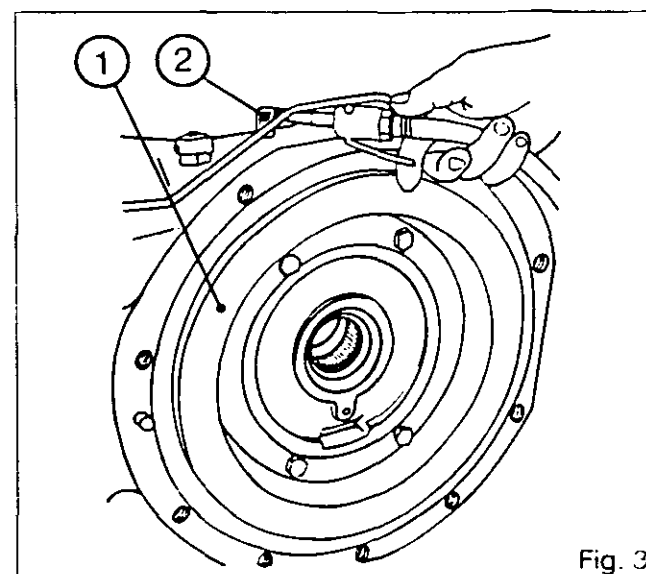

Fig. 3
5. Withdraw the piston (1) from the housing with a jet of compressed air applied to the connector (2) (Fig. 3).
**Note:** To facilitate access to the connector (2), if necessary, disconnect the economy 4-speed p.t.o. control and rotate the connector.